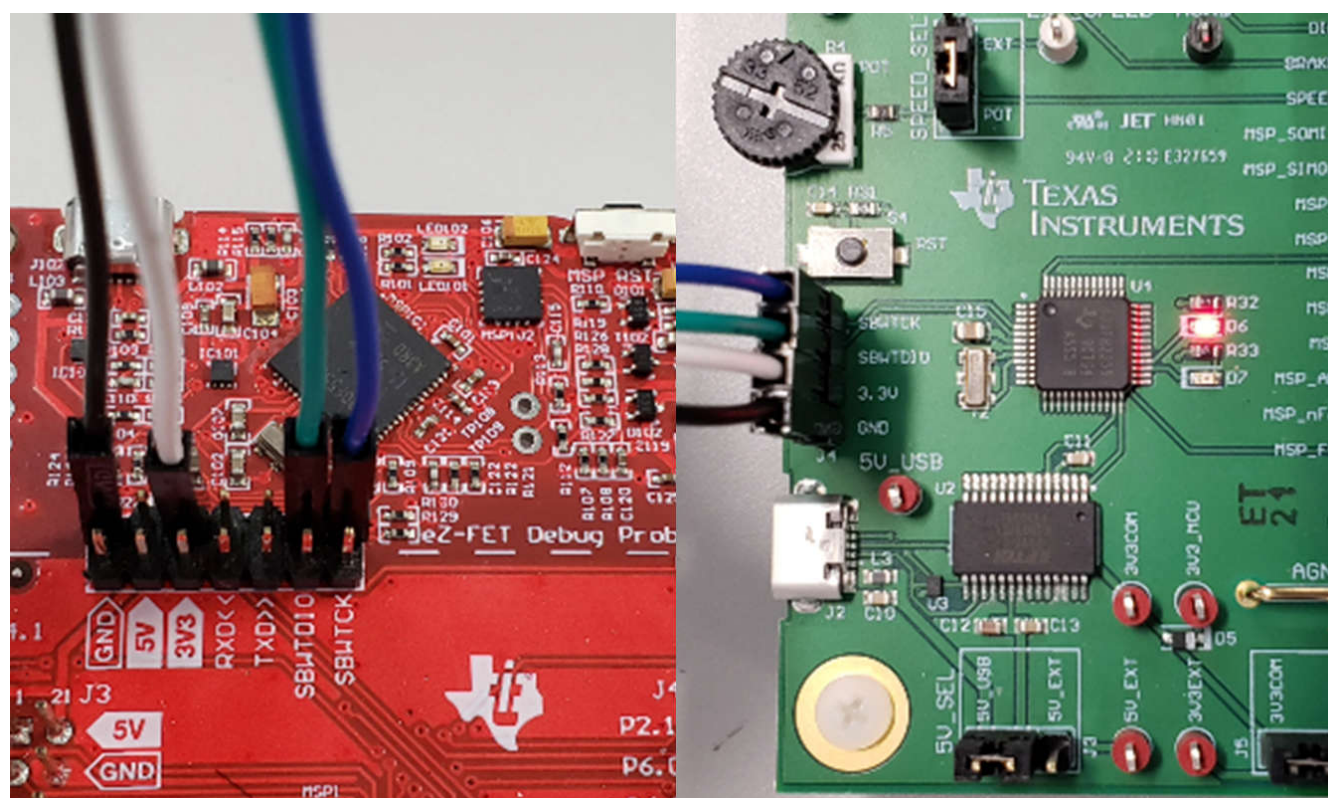

Figure 3-4. MSP430 LaunchPad eZ-FET Probe Connected to MCT8314ZEVM
2. Connect the top pins on the eZ-FET side of the LaunchPad of the GND, 3V3, SBWTCK, and SBWTDIO signals to their respective pins on J4 of the MCT8314ZEVM as shown in Table 3-1 and Figure 3-4.